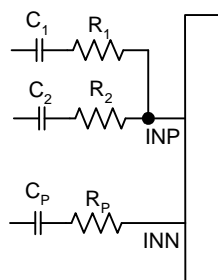

Figure 4. Mixing Two Single-Ended Input Signals
For mixing two Single-Ended (SE) input signals, please refer to Figure 4. The gains of each input can be set difference: